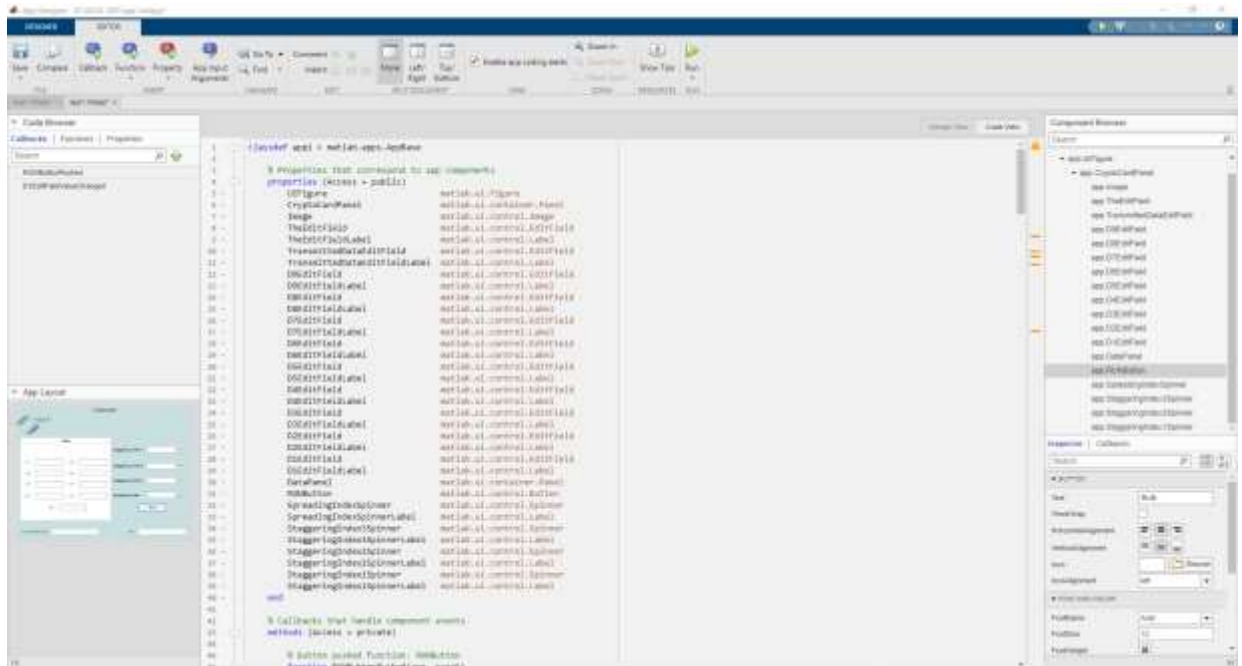

Figure 18: Default Coding Screen if the GUI
- With This a New Function to define RUN Button Functionality will be added. Now, go in the Code View Button as shown in the Figure 18. The Following Window with slight variation will appear as your requirement differ.